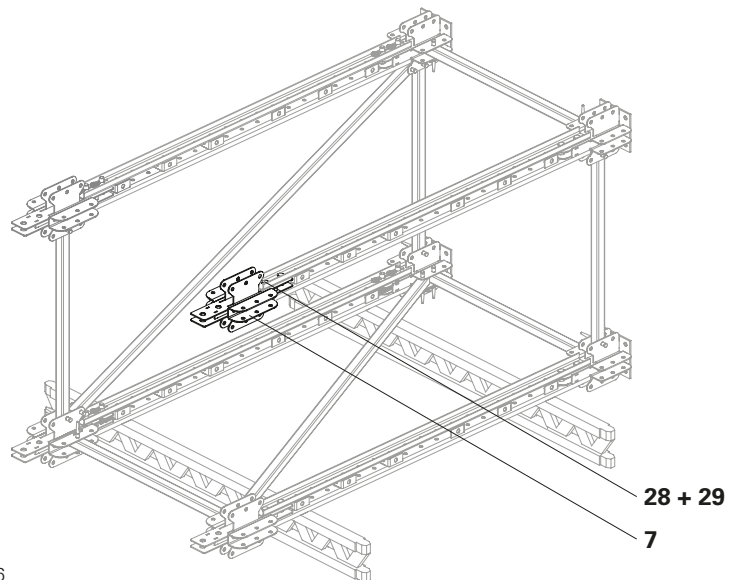

Fig. A1.16
4. Fix the Vertical Connector ATS (**7**) using 2x fitting pins Ø 32 (**28**) respectively and secure with cotter pins 5/2 (**29**). (Fig. A1.16)